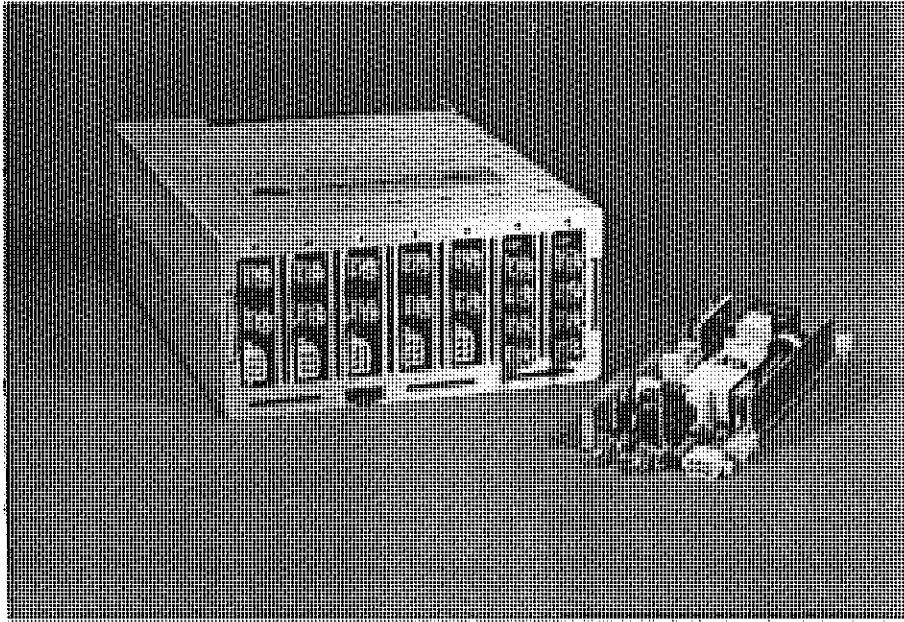

Figure 1. UNIMOD U Series Power System.
- 1.2 The U Series Power System is modular and configurable, with 15 different DC Power Modules available. See Fig. 1. With 7 module slots, it permits the user to quickly obtain a power supply configured to a specific requirement. The U Series provides up to 800 watts continuous output power and is safety agency approved by UL, CSA, and TUV. The case is low profile at 3.75 inches (95.3mm) high; it is 8 inches (203mm) wide and 11 inches (279mm) deep.